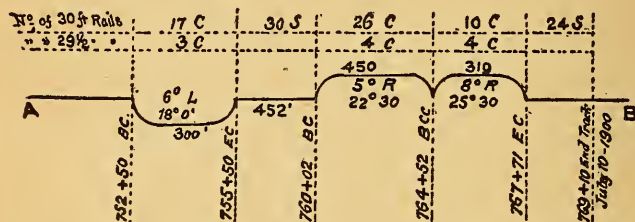

FIG. 1.
17. When laying track where curves are frequent, diagrams should be prepared, as shown in Fig. 1, to avoid confusion in forwarding material at the front and laying the track.